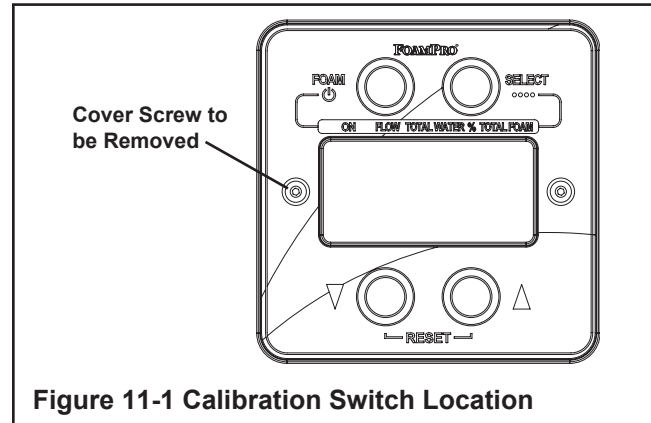

Figure 11-1 Calibration Switch Location
- Remove the cover screws and O-rings to enter the setup and diagnostic modes (See Figure 11-1).
Calibration and Setup is done by using the Digital Display Control Module function buttons. To enter or exit the Calibration and Setup Mode, use a 3/32" Allen wrench to remove the cover screw and O-Ring to left of the Display Readout Panel on the Digital Display Control Module (See Figure 11-1).